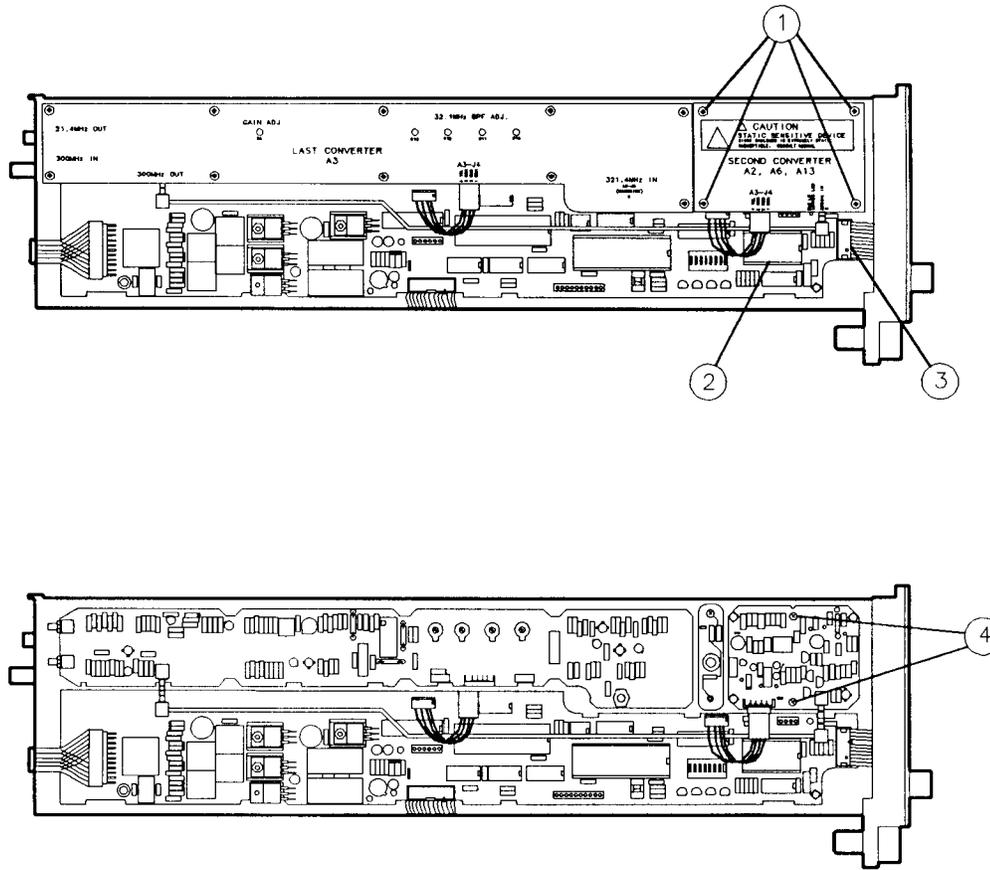

Figure 6-3. A2 Second Converter PLL Replacement
3. Remove the four screws (1) to A2, A6, A13 Second Converter cover and lift it off. See Figure 6-3.
4. Remove the W11 cable assembly connector from A2J2 (2) and W9 coaxial cable from A2J1 (3).
5. Remove the two screws (4) to A2 Second Converter board assembly and carefully lift it out.